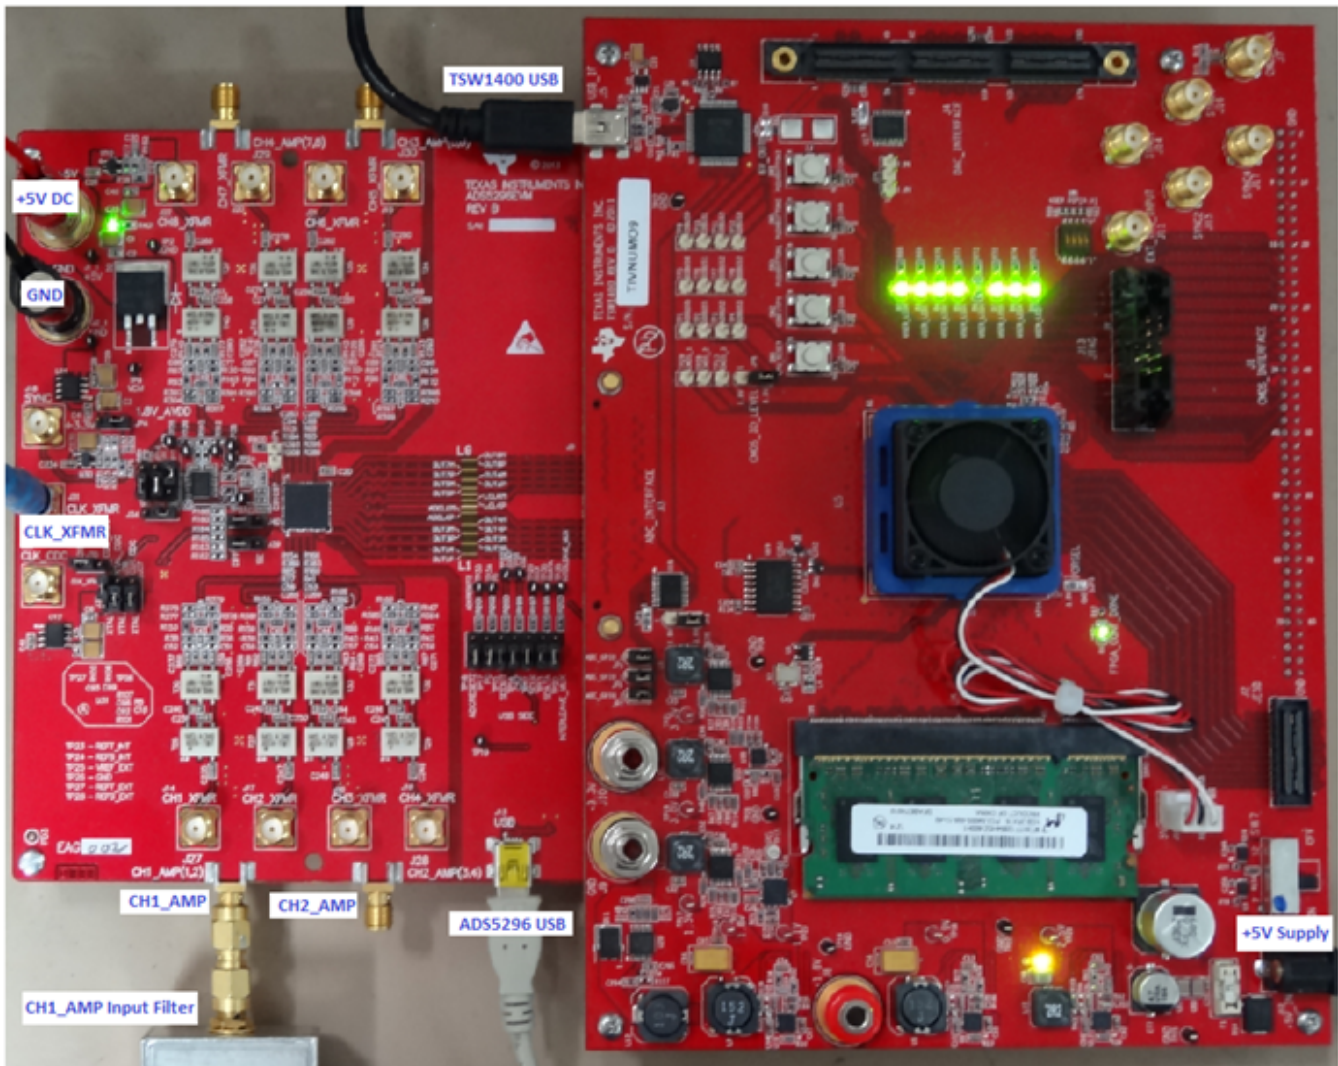

Figure 47. Quad-Interleaving Mode Hardware Setup
1. Setup the EVM as shown in Figure 47 by performing the following steps:
- (b) Provide the input signal to SMA J27 labeled **CH1\_AMP(1,2)** (+15.1 dbm, 10 MHz). For high-performance results the instrument should have low phase noise and low harmonic distortion. In addition, a filter is recommended on the input as shown in Figure 47.